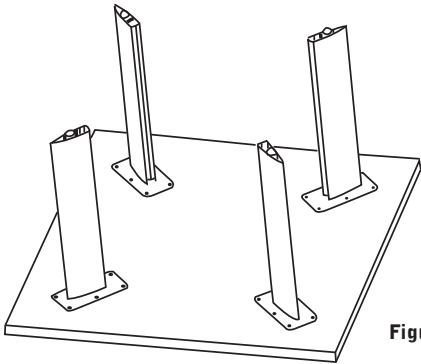

Figure 1
2. Place table upside down onto a soft surface. As shown in Figure 1, invert and position the bases onto the underside of the table and align the metal base plates with the inserts in the underside of the top. **THE BLACK PLASTIC EXTRUSION FACES TOWARDS THE CENTRE OF THE TABLE.**